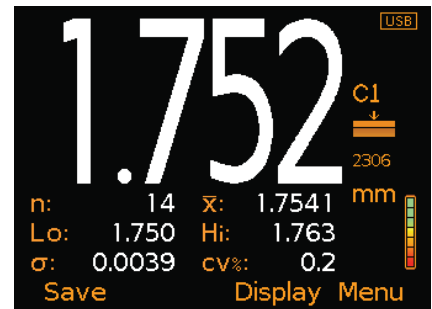

Figure 6: Statistics & Readings (Model B)
- **Statistics - Model B (Figure 6)**; The following statistical values are displayed as each measurement is taken: